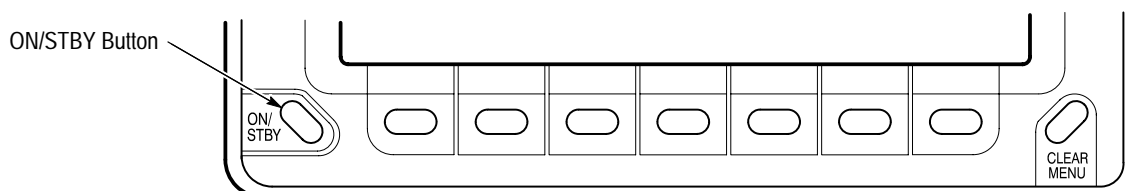

Figure 1–2: ON/STBY Button
3. Check the fuse to be sure it is the proper type and rating (see Figure 1–1 for the fuse location). You can use either of two fuses (see Table 1–1 for the fuse data).
5. Connect the proper power cord from the rear-panel power connector (see Figure 1–1 for the connector location) to the power system.
2. If the oscilloscope is not powered on (the screen is blank), push the front-panel **ON/STBY** button to toggle it on (Figure 1–2).